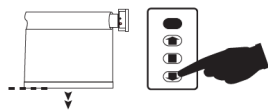

Fig 6.
- If the blind moves BELOW your desired setting, press the up button. (Fig 6.)
**F** If the blind moves ABOVE your desired setting, press the down button. (Fig 6.)
- Rotate the adjusting knob clockwise until the blind reaches your desired setting. (Fig 6.)